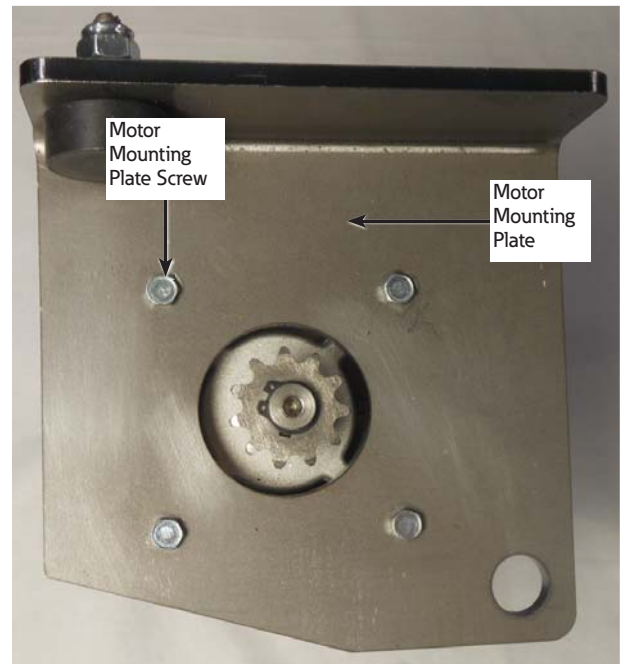

Figure 8. Removal of the motor plate
8. Remove the four screws securing the motor to the motor mounting plate using a 1/4" socket on a ratchet. Remove the motor mounting plate from the old motor. Refer to Figure 8.